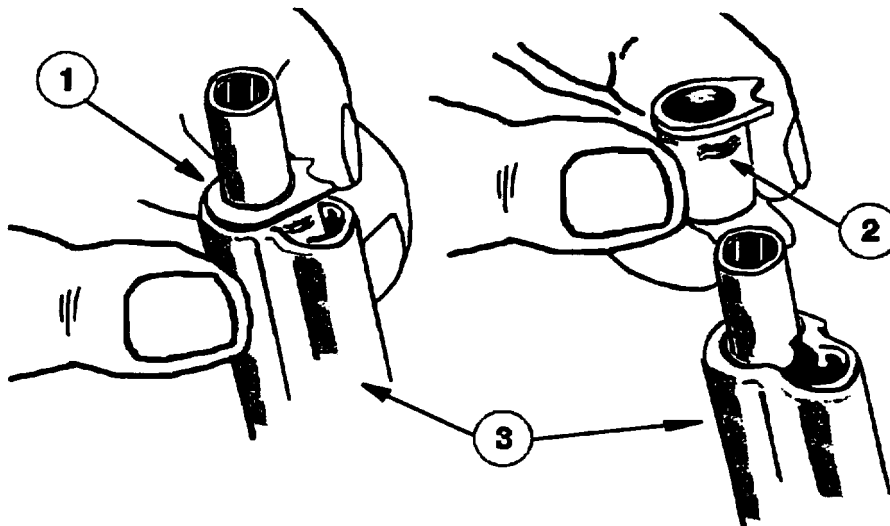

Figure 3-9. Removing The Barrel Bushing
i. Rotate the barrel bushing (1), Figure 3-9, counter-clockwise until the bearing lug (2) aligns with the opening in the slide assembly (3). Lift and remove the barrel bushing.
(2) Place the barrel bushing (1), Figure 3-9, over the barrel and rotate clockwise.